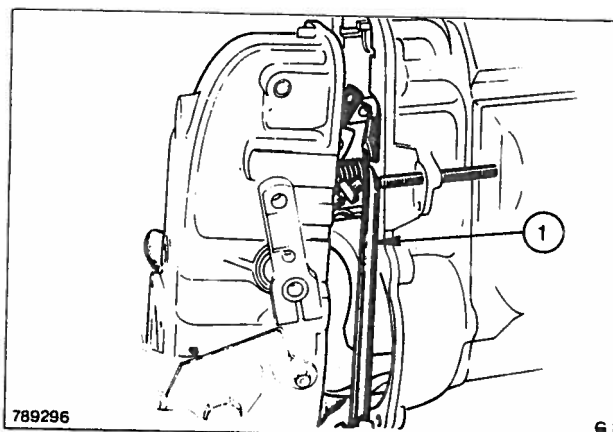

Fig. 48 Uncoupling the shackle from the control rod
5. Remove the retaining screws and lock-washer and slightly pull off the governor cover. Uncouple the shackle from the control rod and the starting spring from the lug in the housing, Fig. 48. Remove cover.